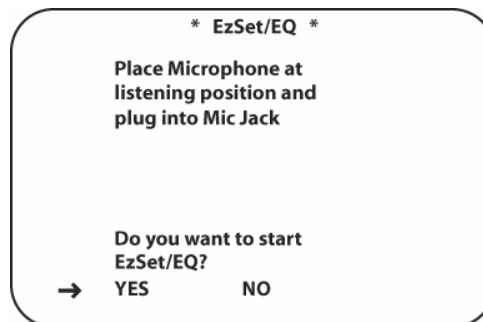

Figure 23 EzSet/EQ Start Menu
Step 4: Once the microphone is properly positioned and plugged in, proceed to the EzSet/EQ menus by first pressing the **Menu Button [oval 44]** to bring the MASTER MENU to the screen. Next, press the **▼/▲ Navigation Buttons [oval 16]** to move the on-screen cursor to the EzSet/EQ menu line. Press the **Set Button [oval 18]** to move to the next screen (**Figure 23**).